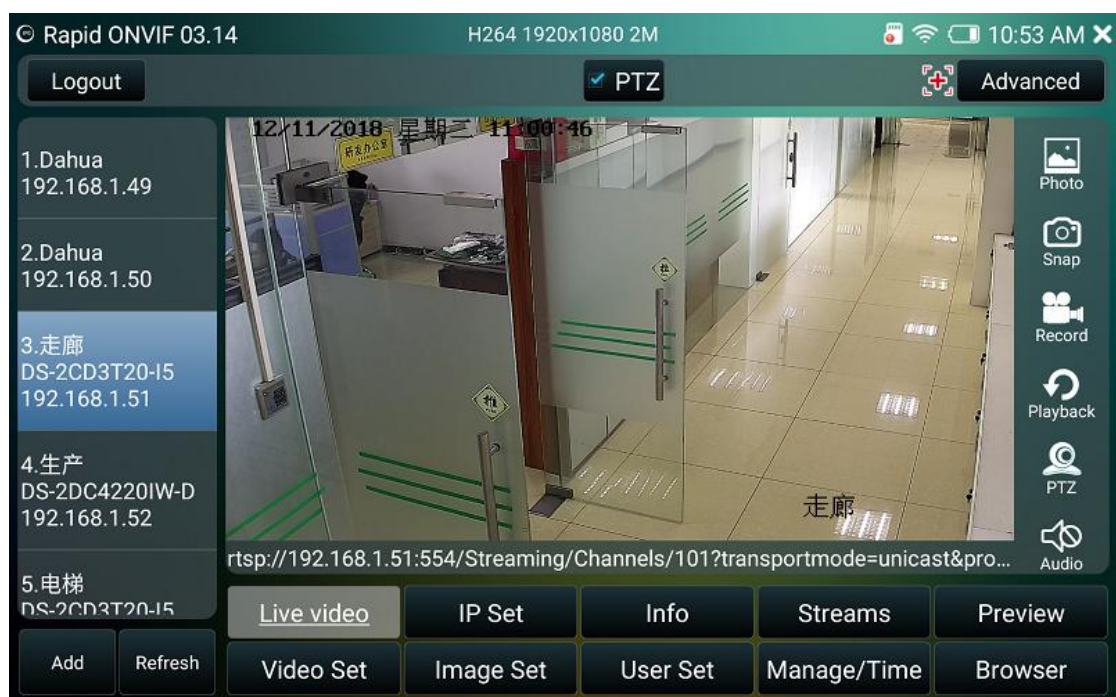

Figure 18
2) Select the camera to be operated, touch it on the left to display image directly, it can display 4K H265, H264, MPEG4 format video, as shown in Figure 18